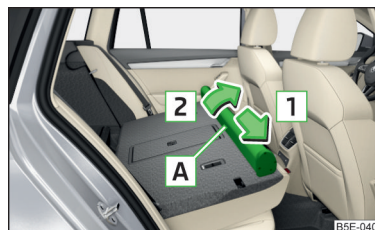

Fig. 117
- Push the net partition housing **A** in the direction of the arrow **1** and remove it from the mounts on the right seat backrests in the direction of the arrow **2** » Fig. 117.
- Push the net partition housing in the opposite direction of the arrow **1** » Fig. 117 as far as the stop.